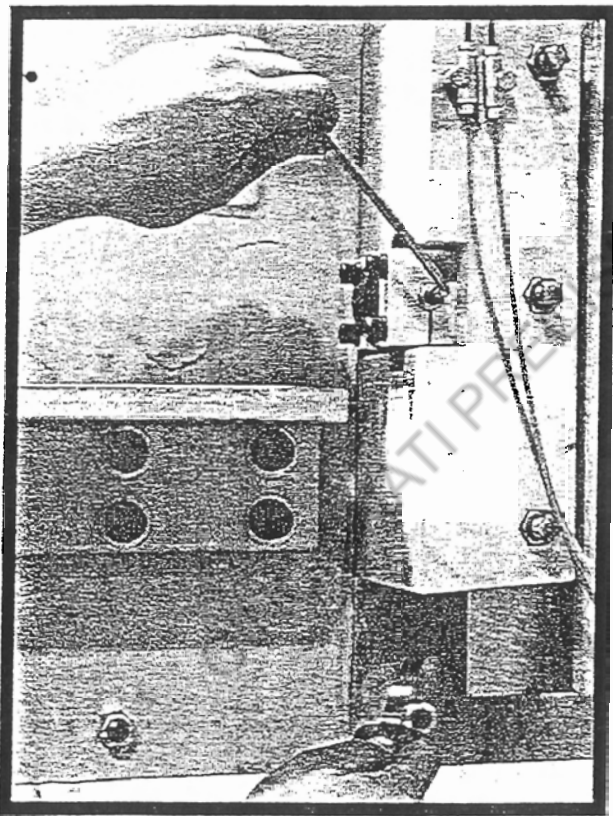

FIGURE 10
5. Adjust the cam follower shaft so that roller just snugs the feeler gauge (See Figure 10). Leave the feeler gauge in place and adjust the clearance on the opposite roller and way with another .012" feeler gauge.